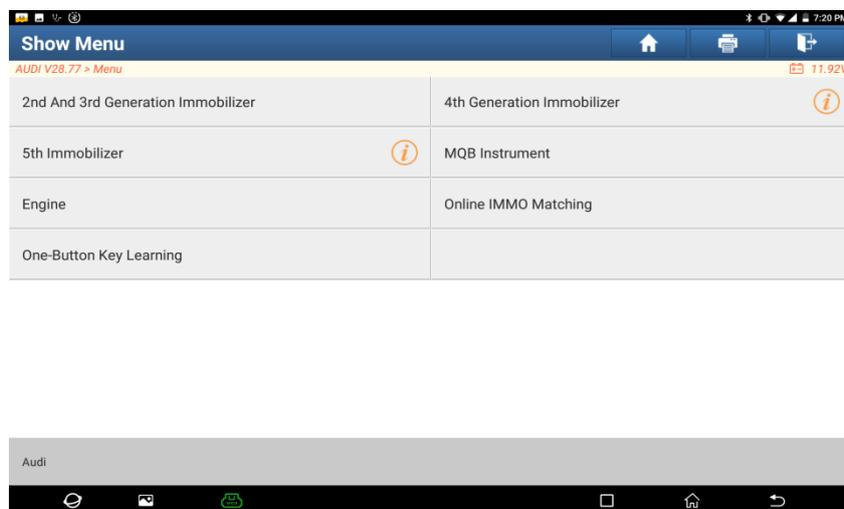

Figure 3
3.2.1.2 Click [OK], as shown in Figure 3.